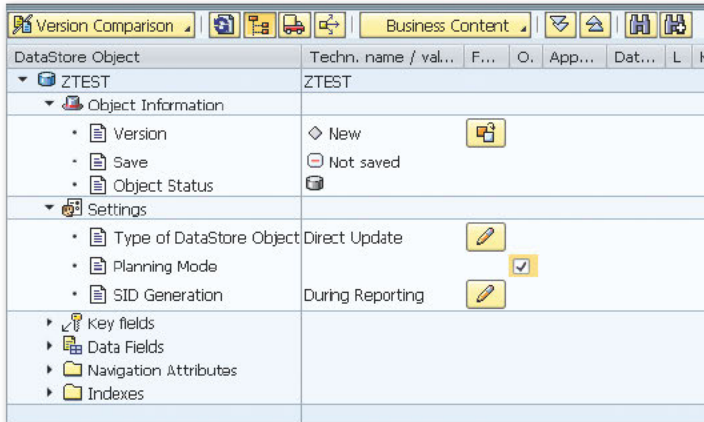

Figure 2 Planning Mode Option
5. The **DIRECT UPDATE** setting that we made in the previous step will change the options available in the **SETTINGS** section of the DSO. A **PLANNING MODE** checkbox will appear in the settings of the DSO as shown in Figure 2. Check the box to use this DSO for planning.
The output of SAP_INFOCUBE_DESIGNS displays the number of rows in fact tables and corresponding dimension tables (see Figure 2). Fact table names start with /BIO/F, whereas dimension table names start with /BIO/D.